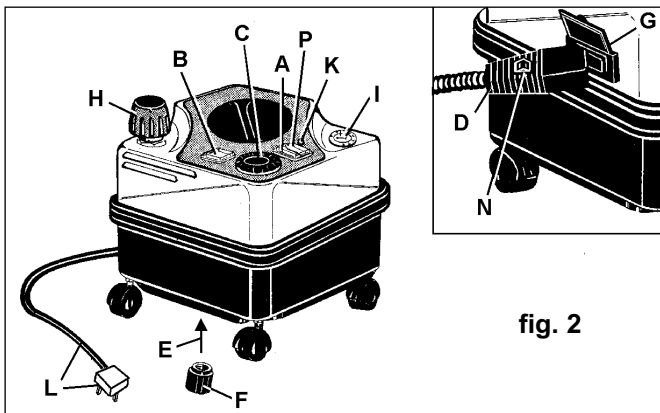

fig. 2
- 4.1. Remove water filler cap (fig.2.H) by pressing down and turning anticlockwise.
- 4.3. Connect the hose by inserting hose connector (fig.2.D) into cleaner socket (fig.2.G). Press red latch button (fig.2.N) during fitting and ensure latch pin engages in hole in socket.
- 4.4. Confirm that the steam flow control (fig.2.C) is closed and that the switches on the gun (fig.3.1) are off ('O').
- 4.5. Connect plug (fig.2.L) to mains supply and switch on green main switch (fig.2.A) and yellow heater switch (fig.2.B). Pilot lights within switches will illuminate.
- 4.8. Adjust the flow of steam, with the control knob (fig.2.C), to suit the task. It is advisable to begin with reduced flow and increase gradually until the required level of cleaning is reached.
- 4.9. When the water level gets low the warning light (fig.2.K) comes on and an audible warning sounds. Use the remaining steam, turn off the heater switch and exhaust any remaining pressure through the nozzle (note that, for safety, the filler cap cannot be removed whilst there is pressure in the tank). Now remove filler cap, refill with water, replace cap and turn on heater switch.
- 4.10. If a hot water jet is required, either to remove stubborn dirt or to rinse after steam cleaning, switch on red switch (fig.2.P) and then operate the blue switch (fig.3.1) on the gun. **Only the long nozzle (fig.1.4) should be used with water.**
- 4.13. If cleaner is to be stored for some time, drain water from tank by removing drain plug - on underside of unit (fig.2.E) - with tool (fig.2.F) supplied.